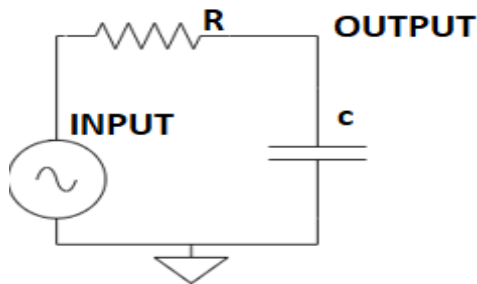

Figure 1 Low Pass Filter Circuit
- Connections are made as shown in Fig.1